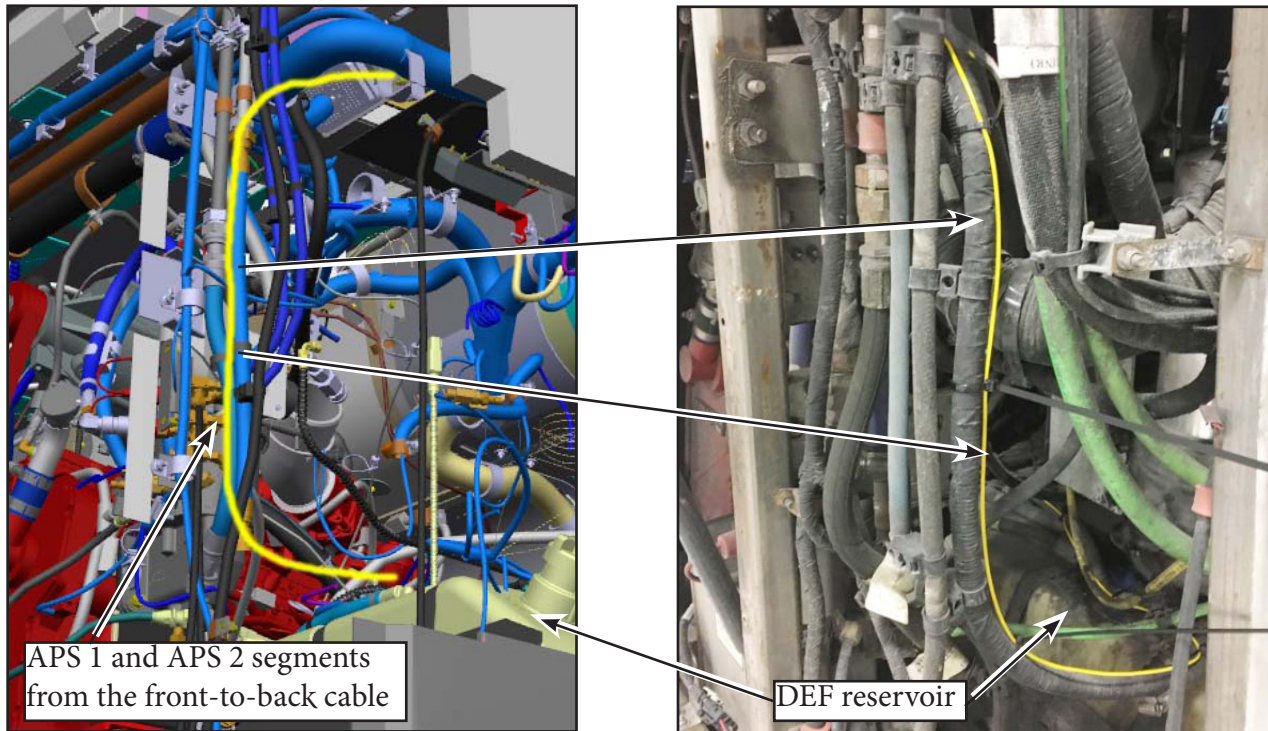

Figure 29 - Front-to-Back Cable Routing in the Hydraulic Oil Tank Area
2.16. Raise the bus and continue routing and tie-wrapping the front to back cable over the same routing path previously used for the bypass cable in level 1 (see Figure 29).